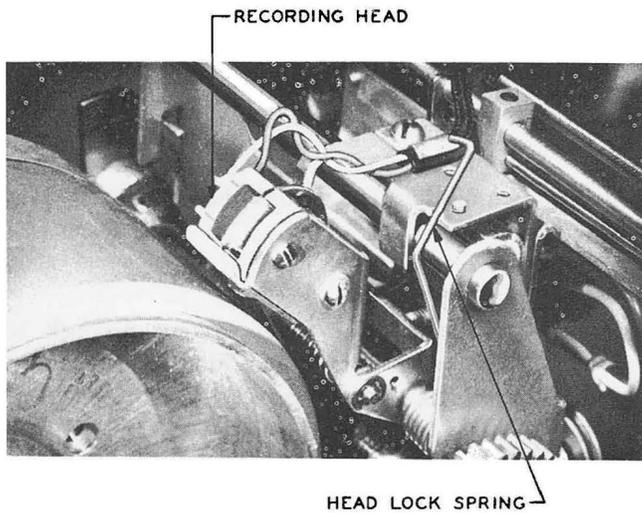

Fig. 2 — 2AB Telephone Answering Set, Recording Head Shown in Operating Position with Recording Head Lock Spring in Notch in Carriage Bracket
4.02 To release recording head, remove head lock spring from recording head and place in notch in carriage bracket (see Fig. 2).